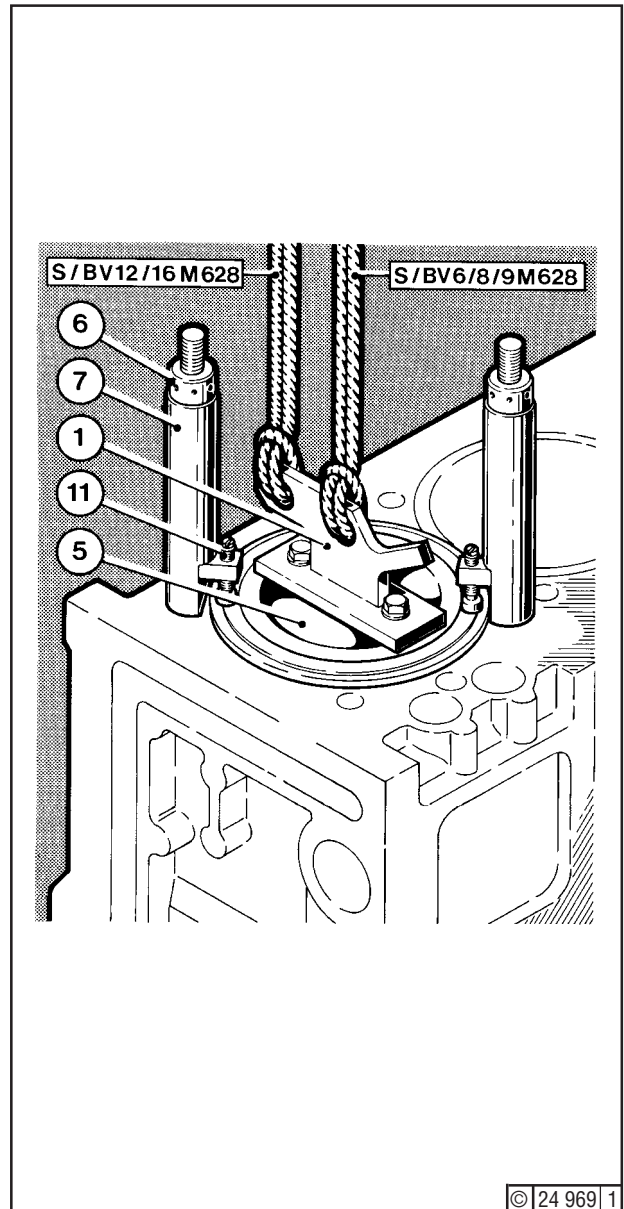

Fig. 1
Remove cylinder head (job 01.04.01) and big-end bearing cap (Job Card 02.05.01). Place both liner retainers (7) - Fig. 1 - on two opposite studs and tighten annular nut (6) moderately.